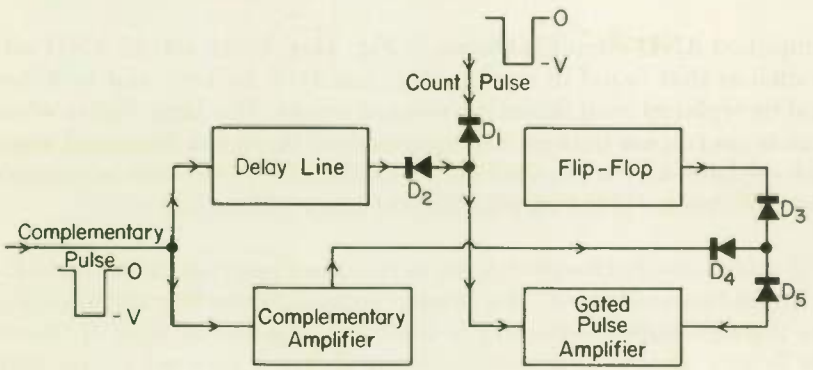

Fig. 3 Block diagram of a section of a computer, showing the use of diodes as steering circuits.
A STEERING CIRCUIT . . . Figure 3 is the block diagram of part of a pulse counting circuit. You need not understand the purpose of the various blocks. By means of the diodes, certain of the pulses are
The output signal from the flip-flop block is fed to the block labeled ⁽²²⁾ _____, and is kept from entering the ⁽²³⁾ _____ block by diode ⁽²⁴⁾ _____. The diodes in Fig. 3 are obviously steering diodes, directing the various pulses to the desired destination.
3. Assume the diodes used in Fig. 3 are 1N63's. If the output from the complementary amplifier is 10 volts, and it delivers 10 ma to the gated pulse amplifier, what is the voltage at the input to the gated pulse amplifier? _____.